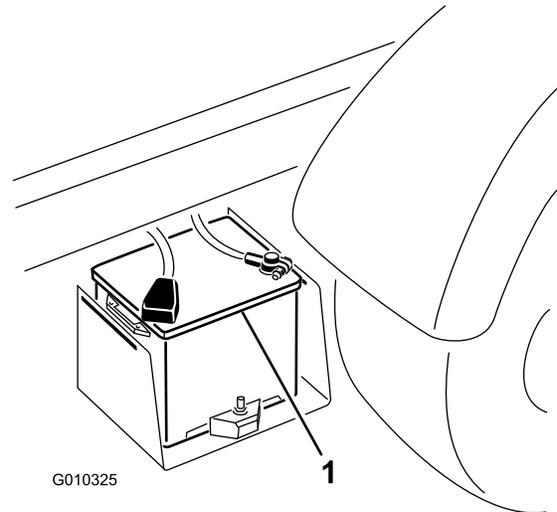

Figure 50
2. Connect a jumper cable between the positive posts of the 2 batteries (Figure 50).